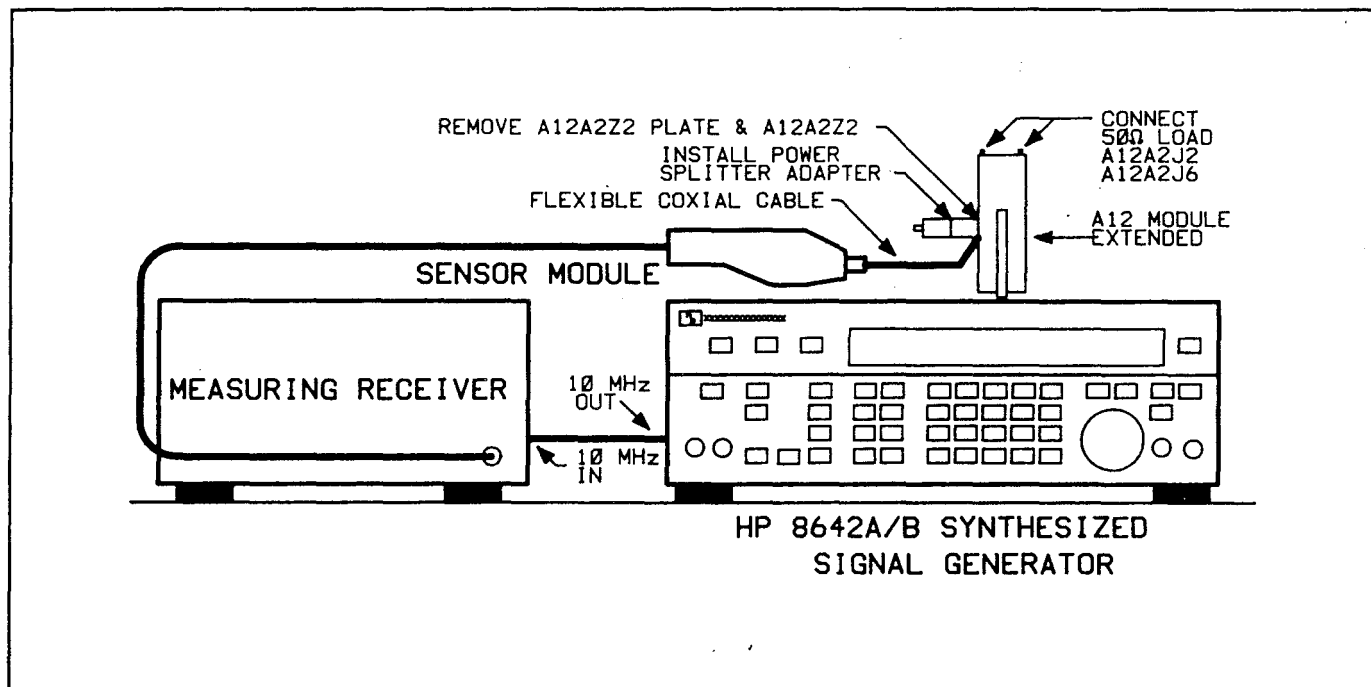

Figure 80-9. A12 VCO Adjustment Set-up 1
3. VCO Adjustment Setup: (Refer to Figures 80-9 to 80-11)
10. When "WAITING FOR SET-UP 1 .V24" appears: (refer to Figure 80-9)